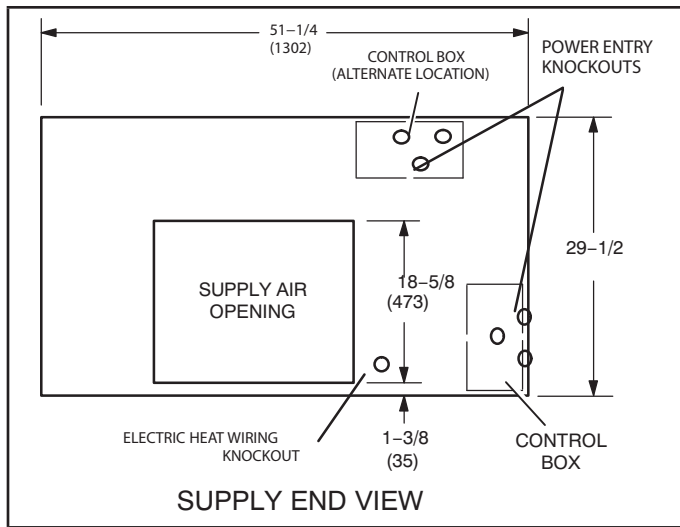

FIGURE 1. TAA 072 and 090 Knockout Location - Dimensions - inches (mm)
- 4 - Remove the blower coil knockout located beside the supply air blower opening. TAA location is shown in figures 1 through 3.